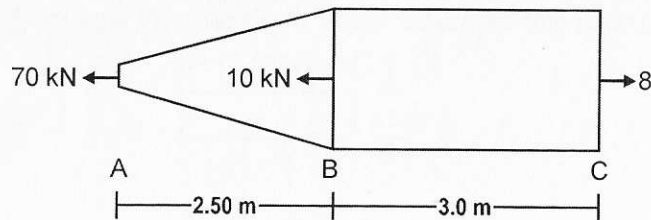

Figure 1
2. (a) A circular mild steel bar of varying cross section is subjected to the axial forces as given in Fig.1. The diameter of the bar at location 'A' is 25mm, at 'B' is 50mm. The bar has uniform cross-section at 'BC'. Find out the total elongation of this bar. Consider modulus of elasticity (E) = 20×10^8 kN/m².